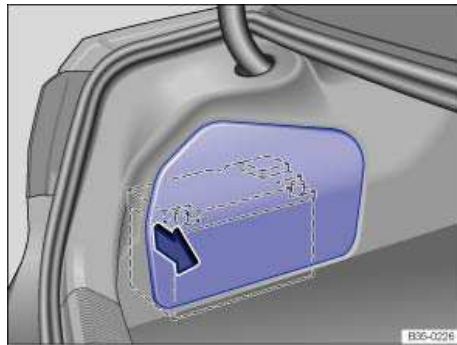

Fig. 171 In the luggage compartment: On vehicles with a 3.6 liter engine, the vehicle battery is on the left side of the luggage compartment.
- *Vehicles with 3.6 liter engines:* Remove the trim panel to access the vehicle battery ⇒ fig. 171.